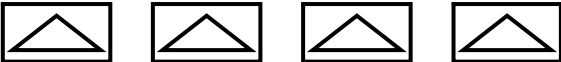

Fig. 1.1c: Config. – Finding Sensors
2. Each time a sensor is found, the system will assign it a number and briefly display it on the LCD as illustrated in Figure 1.1c.